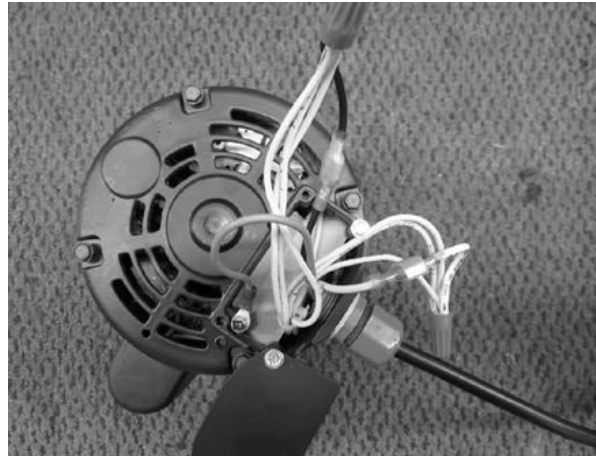

Figure 8.
7. Attach the Power Cord Wires (Figure 8.)
On the motor, loosen both junction cover plate screws and rotate the plate away from the junction cavity as shown in Figure 8.